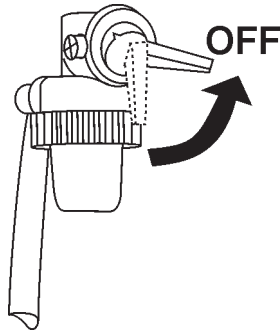

Figure 25. Engine Fuel Valve Lever (OFF Position)
4. Place the engine **fuel valve lever** (Figure 25) to the "OFF" position."
Remove carbon build-up on the spark plug (Figure 25) with a wire brush. Set the spark plug gap to 0.6—0.7mm (0.024-0.028 inch). Tighten with a spark plug socket wrench. Clean the spark plug every 50 operating hours or once a week.